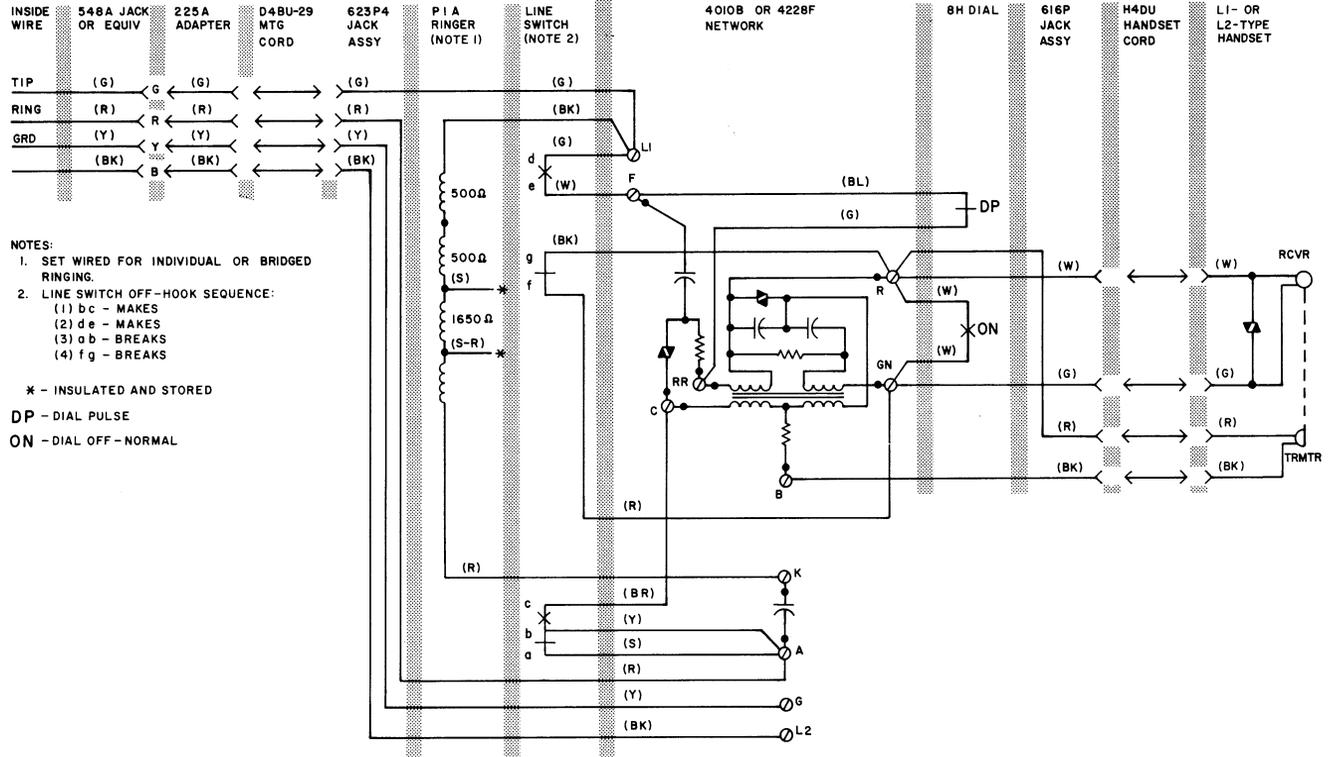

Fig. 7—940-Type Telephone Set, Connections
**3.02** The internal connections for the 940-type telephone sets nonkey system use is shown in Fig. 7.
**3.03** Connections for 1A KTS do not require any telephone set modifications and are wired same as Fig. 7.